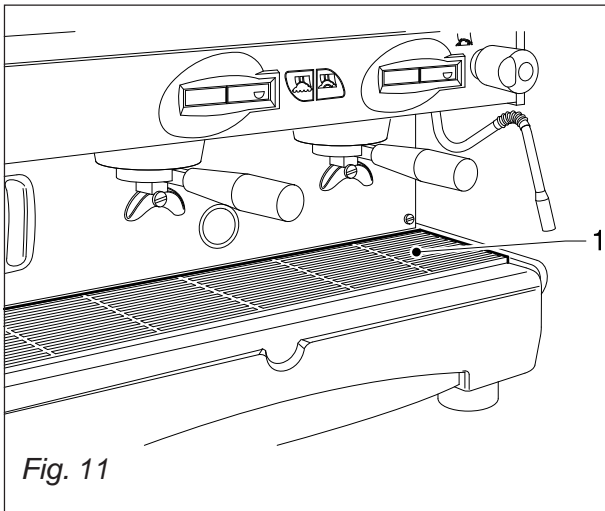

Fig. 11
- Remove the cup rack 1 (Fig.11), slide out the drip tray and clean them both.